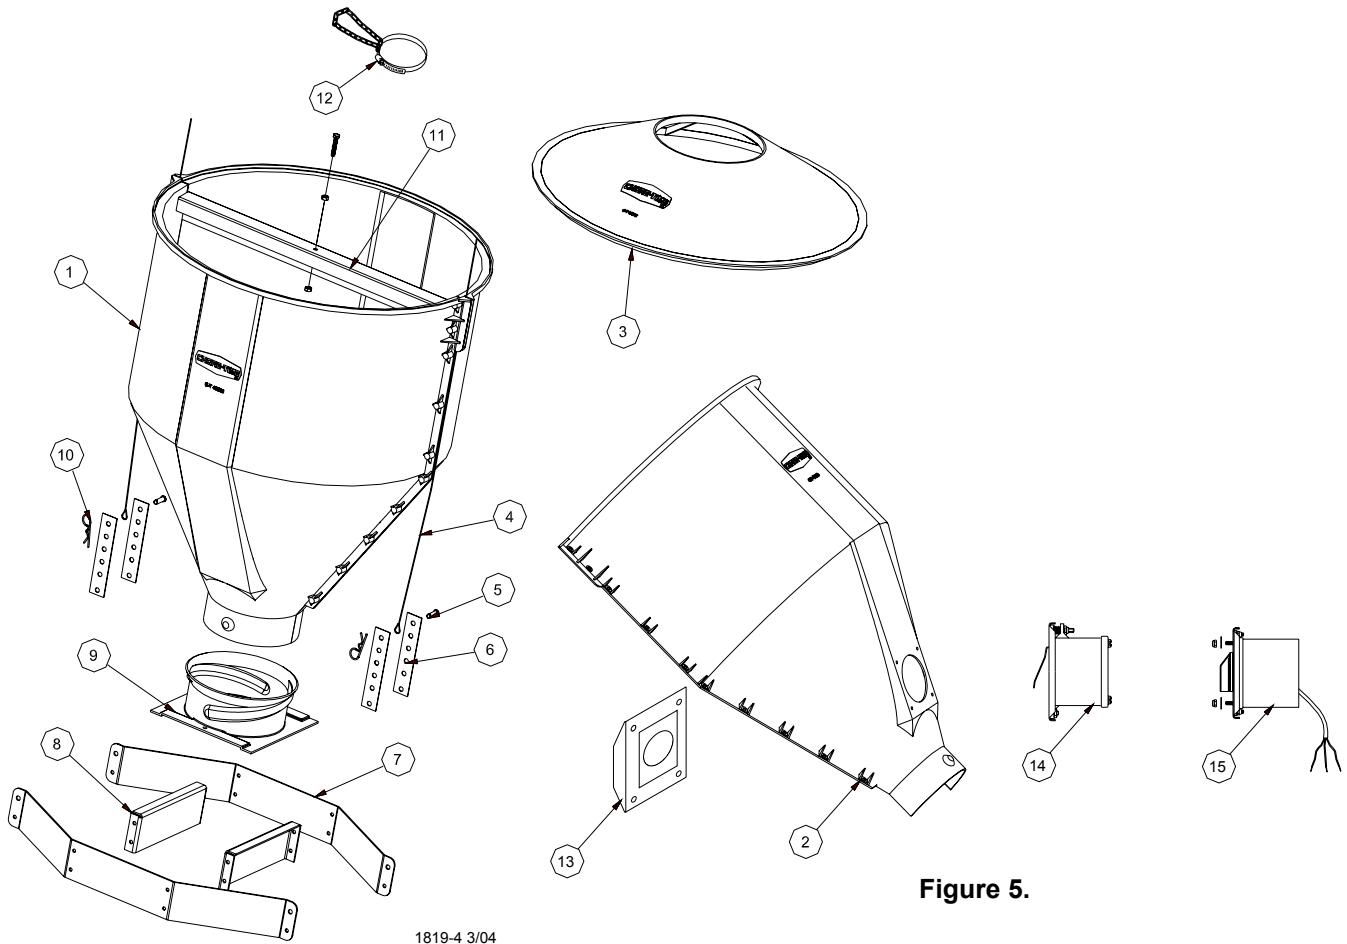

Figure 5.
1. If Hopper Assembly was ordered with lower hopper switch, assemble the switch to the machined hopper half. See **Figure 5**.